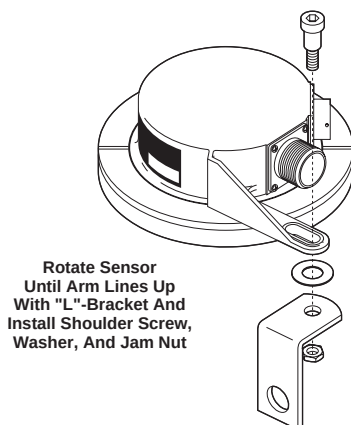

Figure 11-7. Replace "L" Bracket
9. Realign the sensor arm with the "L" bracket and replace the shoulder screw, washer, and jam nut (Figure 11-7). Tighten until firm.